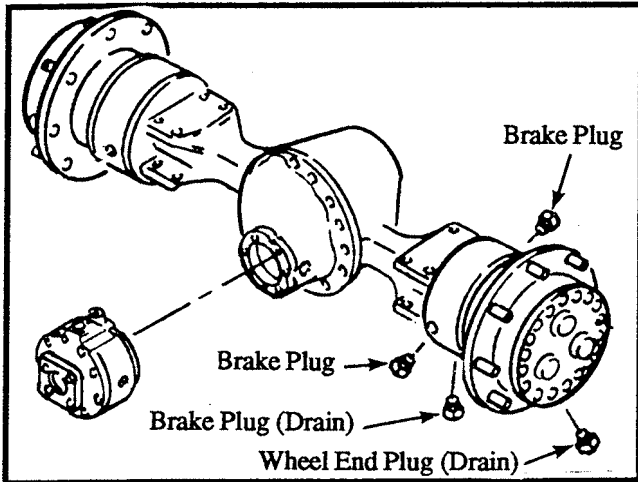

Figure 12-8. Wheel End and Brake End Plugs
Use the following procedure to change the wheel and brake end oil. Also refer to Figure 12-8 for reference.
3. To drain oil from the wheel end, remove the plug at the 6 o'clock position. Be careful, hot oil or components can burn. Refer to Figure 12-8.